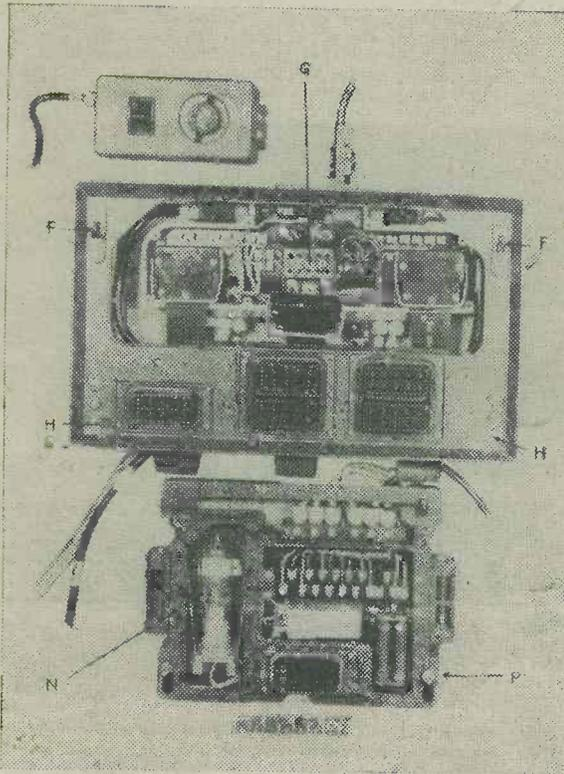

Fig. 2.—Mounting frame for V.H.F. transmitter receiver. Cover plates removed to reveal the salient features. For the legend, see text.
The FuG 16 (Fig. 2), for example, has two mounting frames; the upper for the transmitter-receiver unit and the lower for the power unit. The frame for the radio unit is rubber mounted, using metal-rubber bonded blocks and carries hooks (F) which support the unit while quick-release catches, locking in the slots (H) provided,